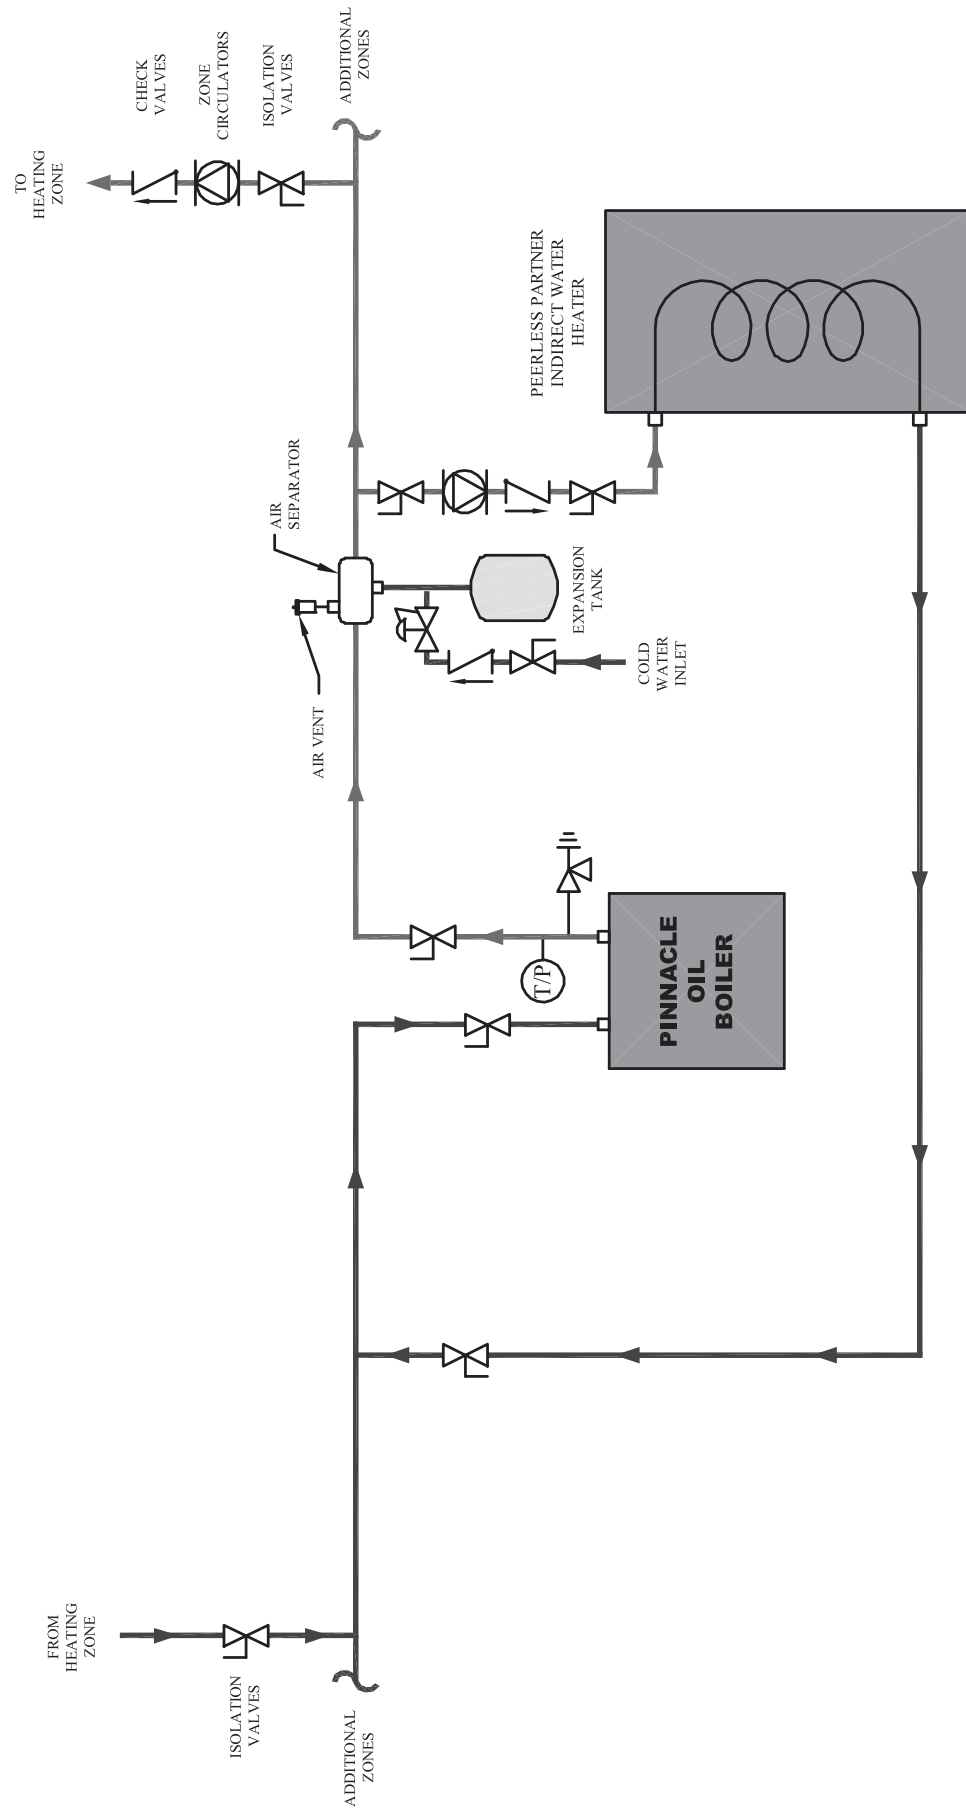

Figure 4.3: One Boiler with Two Zones using Zone Circulators
1. *Figure 4.3:* This illustration shows a single Pinnacle Oil Boiler, a Peerless Partner Indirect Water Heater, and a single heating zone.